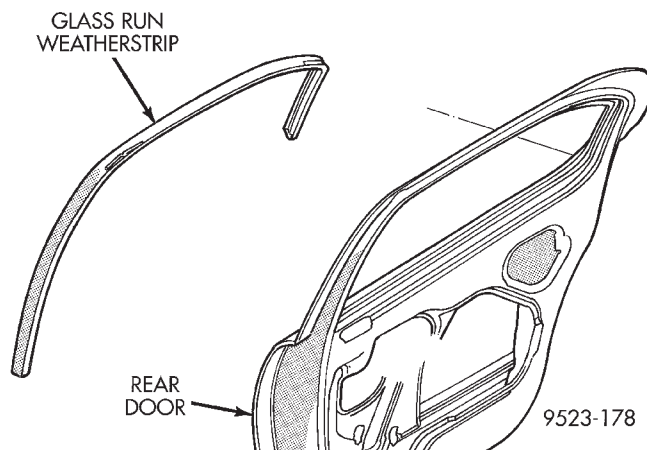

Fig. 39 Door Glass Run Weatherstrip
- (1) Remove door trim panel.
- (2) Remove door glass.
- (3) Pull glass run weatherstrip from door glass opening frame (Fig. 39).